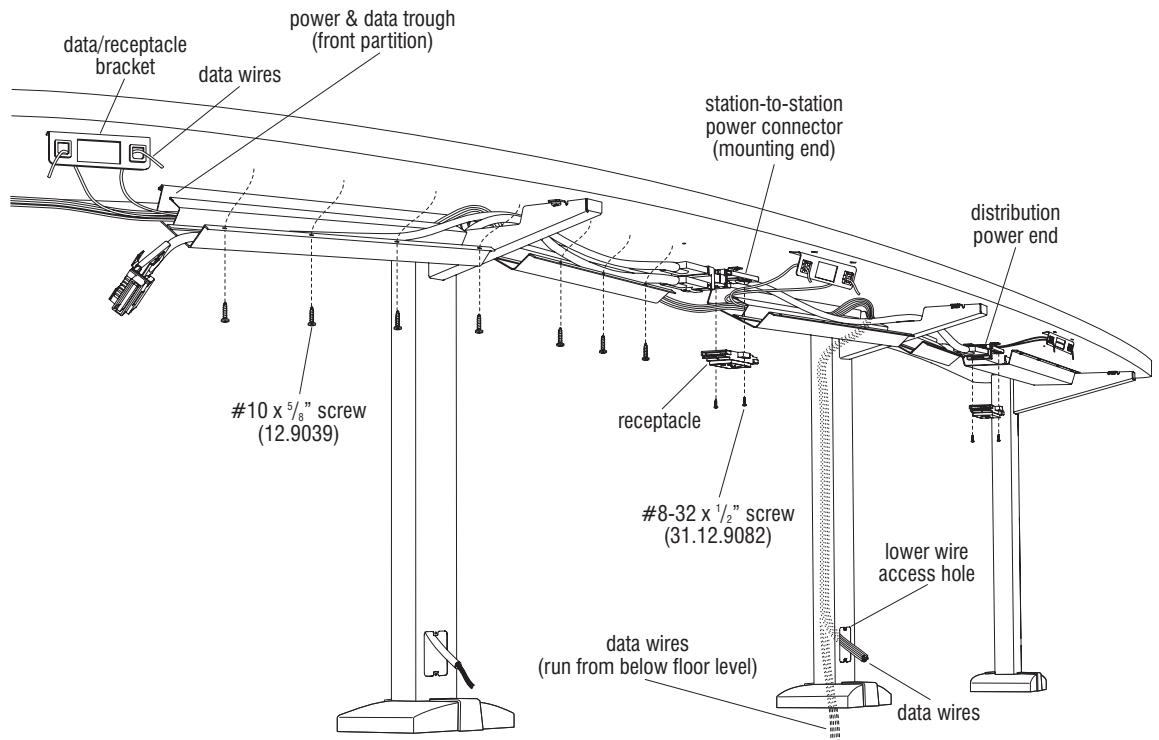

Figure 16
end), and/or the distribution power end with two #8-32 x 1/2" screws provided (Figure 16). Torque screws to 20 in/lbs.
31. The data wiring (not provided) may be installed at this time. Referencing the space-planning layout, locate the data wire infeed locations. If data wiring connections are to be made below floor level, they must be made before mounting the column to the floor. Run the data wires through the column upright and out the bottom of the column. Make data line connections. Data wiring that is to be run through a lower wire access hole may now be connected to the source similar to the process described in step 35. Under the table top, run the data wires through the smaller, front partition of the power & data trough. Properly routed, these data lines will be separated from the line voltage flexible conduit by the trough divider. Push the ends of the data lines out through the appropriate data jack adapters of the data/receptacle bracket as illustrated. After all wiring has been installed, close the power & data troughs and secure them to the underside of the table top using #10 x 5/8" screws provided. Torque screws to 25 in/lbs. All of the screw holes in the trough must be utilized (Figure 16).